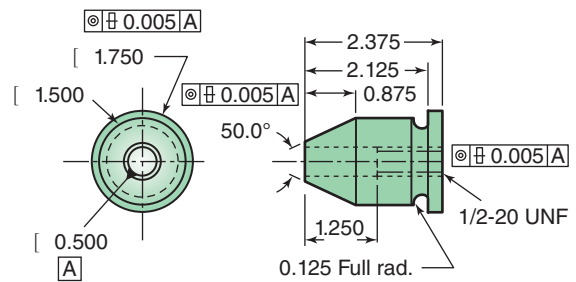

Figure 17-60 Turning problem.
14. In Fig. 17-60, where should the PRZ be placed to turn this pin chuck collet? In what orientation should it be machined? Explain. (LO 17-2)
15. Are there any circular interpolations required for the pin chuck (Fig. 17-60)? Why? (LO 17-3)
16. Since the 50.0 dimension is angular, would polar coordinates be used to define the tapered surface (Fig. 17-60)? (LO 17-4)
18. The second geometry point for Fig. 17-60 was the diameter at X0.6840, Z0.0000. It's not on the drawing. How was it calculated?